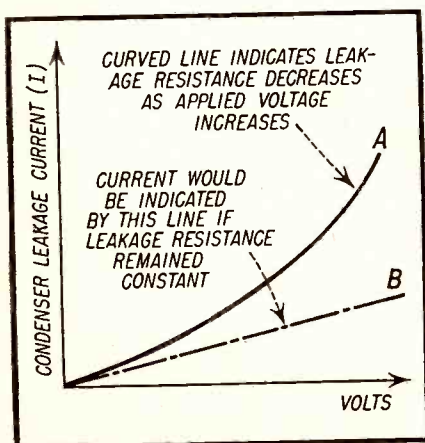

Fig. 4—Variation of leakage resistance with applied voltage is shown in the above illustration.
1. Leakage resistance usually varies with the applied voltage. In most instances as the voltage across the condenser increases, the leakage resistance decreases. This is indicated in Fig. 4. If the leakage resistance remained unchanged, the leakage current would follow the straight line (B). However, as indicated by (A), the leakage current exceeds the normally expected ohms law current by greater and greater